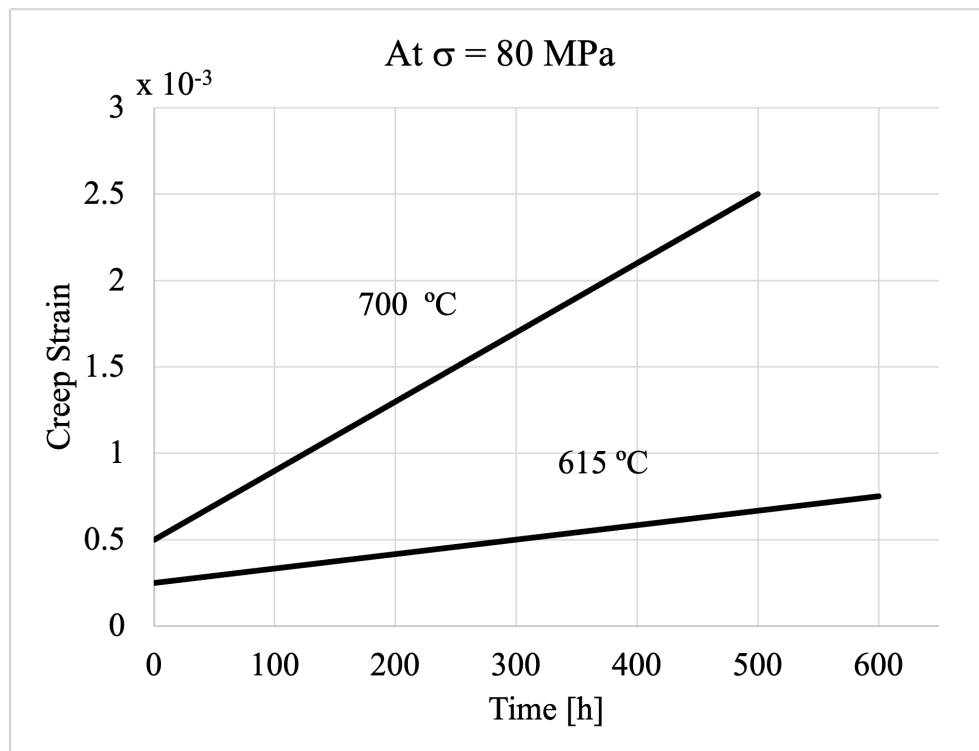
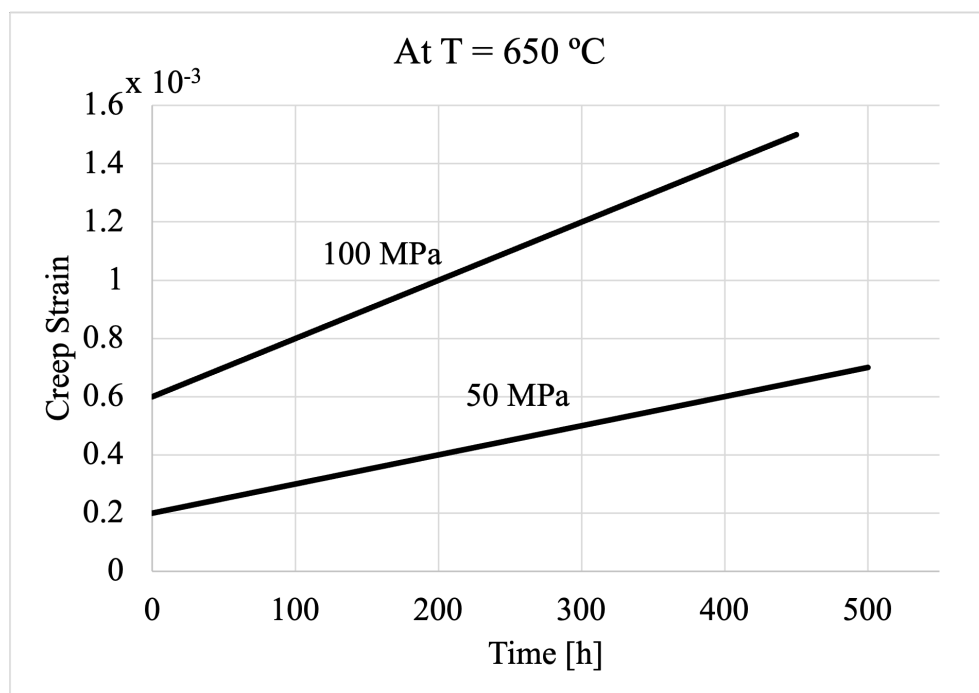

Figure 2
Figure 3
5 A high-strength steel alloy to be used in nuclear power stations was subject to four different tensile test conditions to assess its steady state creep response. Two tests were performed at a fixed applied stress of $\sigma = 80$ MPa and temperatures of $T = 615^\circ\text{C}$ and 700°C . Two tests were performed at a fixed temperature $T = 650^\circ\text{C}$, and applied stresses of $\sigma = 50$ MPa and 100 MPa. In each case the creep versus time was measured *only during steady state creep*. The data is shown in Fig. 2 and Fig. 3, respectively. In order to evaluate the strain rate of this material at an arbitrary temperature, T , and stress, σ , the following relationship can be used:
- (a) Use the data in Fig. 2 and Fig. 3 to calculate the steady state creep strain rate subject to each of the four test conditions. Note: time zero corresponds to the start of steady state creep. [5]
- (b) Using the results from Part (a) as well as the information provided in Fig. 2 and Fig. 3, calculate the creep exponent n and the activation energy, Q . [8]